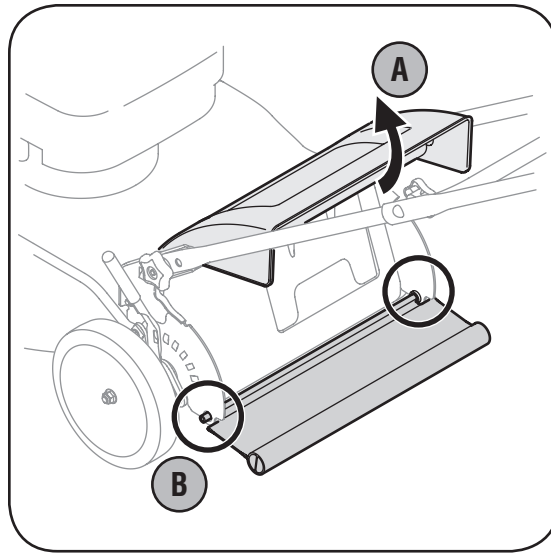

Figure 5-3
1. To remove the old rear flap, lift rear door, and press flap in on either side to remove from hole. See Figure 5-3.